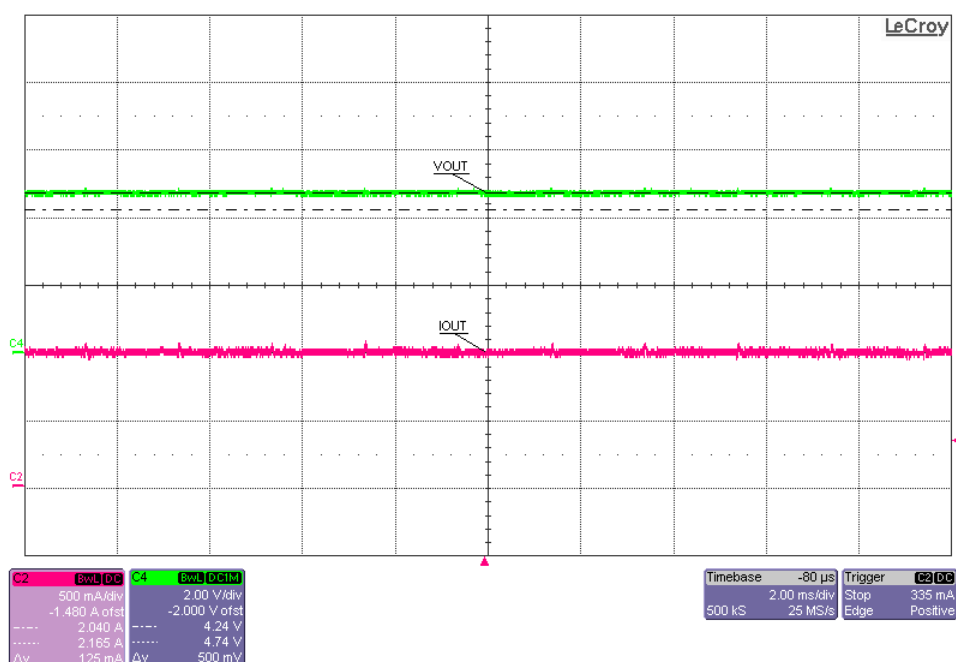

Figure 2. bq51020 in Steady State Operation with bq24250
- Figure 2 shows the V_{OUT} and I_{OUT} from the RX as the battery charges.